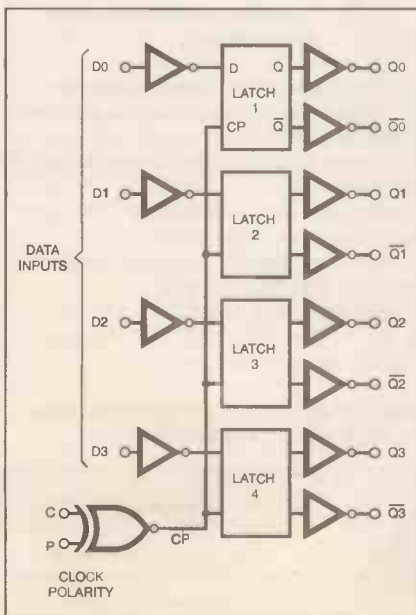

Fig.1a. Internal logic diagram for the HEF4042 (Philips Semi). Note the CP signal cannot be accessed externally.
The clock signals for all four latches are connected via an exclusive-NOR function (XNOR) which has two inputs. These inputs can be interpreted as the clock (C) and polarity control (P) for the clock (see Fig. 1a). Philips' 4042 data sheet describes them as Enable 0 (E0) and Enable 1 (E1). In fact the data sheet includes a function table (Table 1) which outlines the logical operation of this chip.
The sensor is a tiny, two micrometre, beam etched onto an integrated circuit along with the detector electronics. The sensor is, in fact, a beam of polysilicon held at four points by supports of the same material, see Fig.1a. The supports can flex and so act as springs.